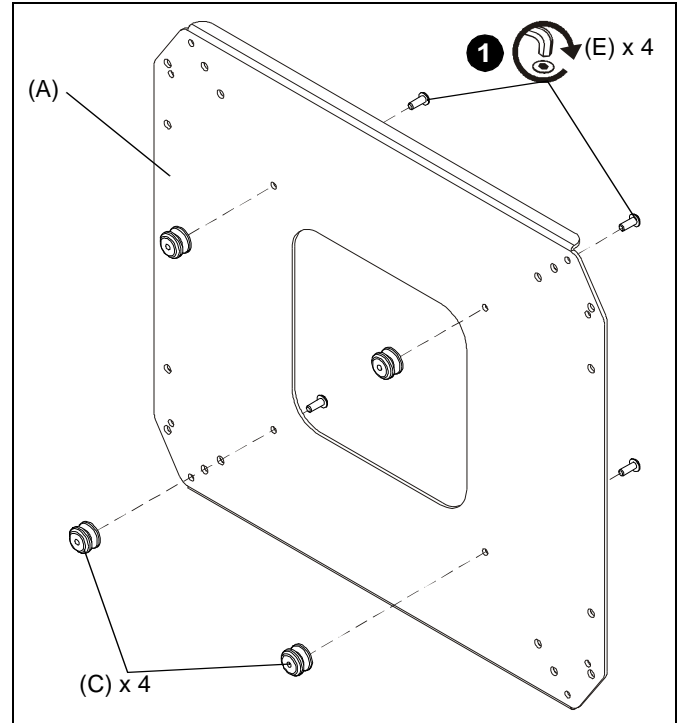

Figure 2
1. Insert four #10-24 x 1/2" button head cap screws (E) through four inner holes of interface plate and into four threaded mounting buttons (C). (See Figure 2)